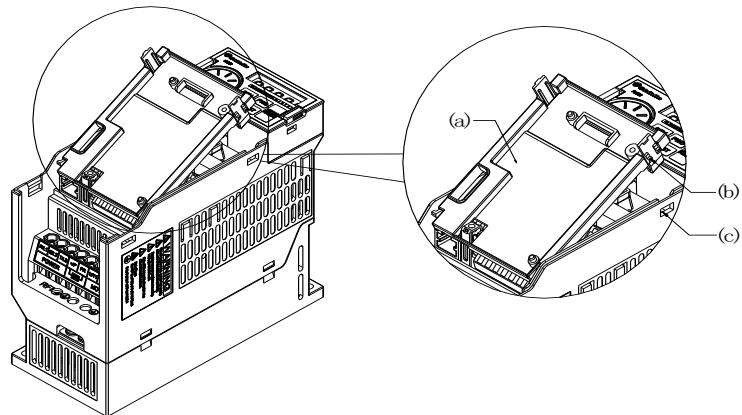

Figure 1
Step 3 : Use the front rear as support and slide (a) in by pressing down as figure 1 shown..